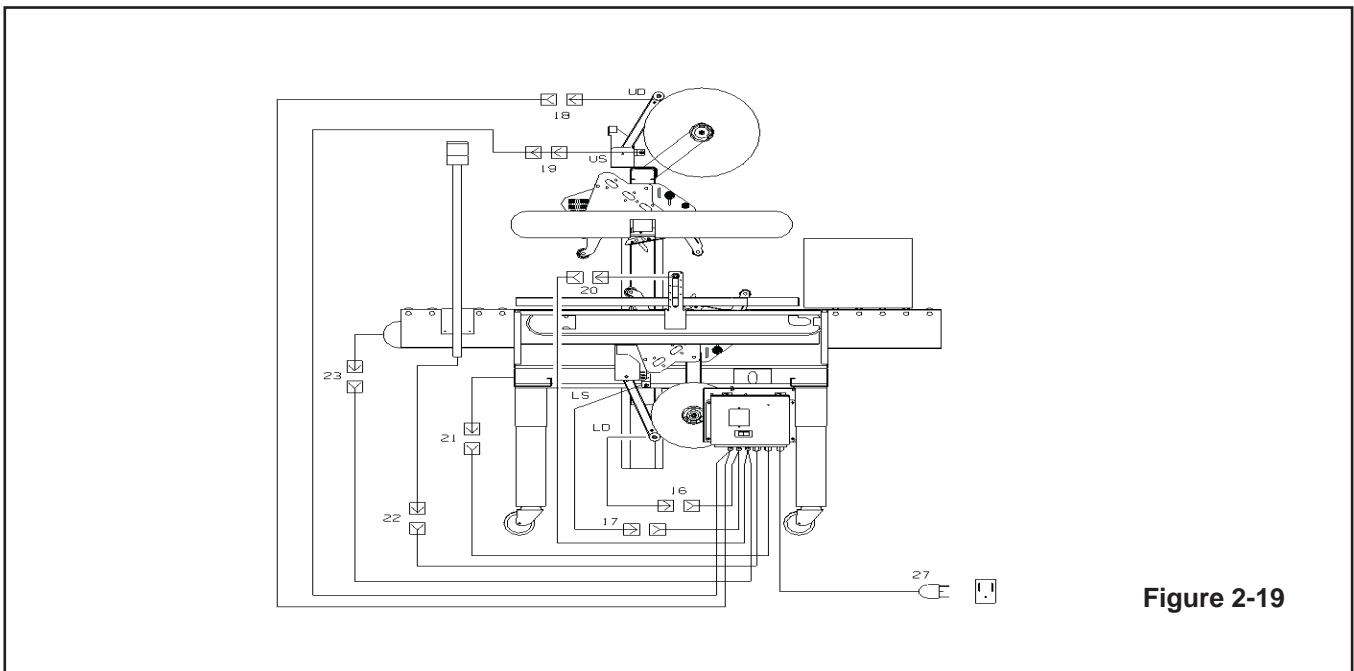

Figure 2-19
- 5) Move a box to the sensor location to turn on (i.e. primary sensor location in front of cutoff bracket or alternate as shown in **Figure 2-19**).
- 5) Connect the case sealer power cord to control box assembly and restore power (**See Figure 2-19**).